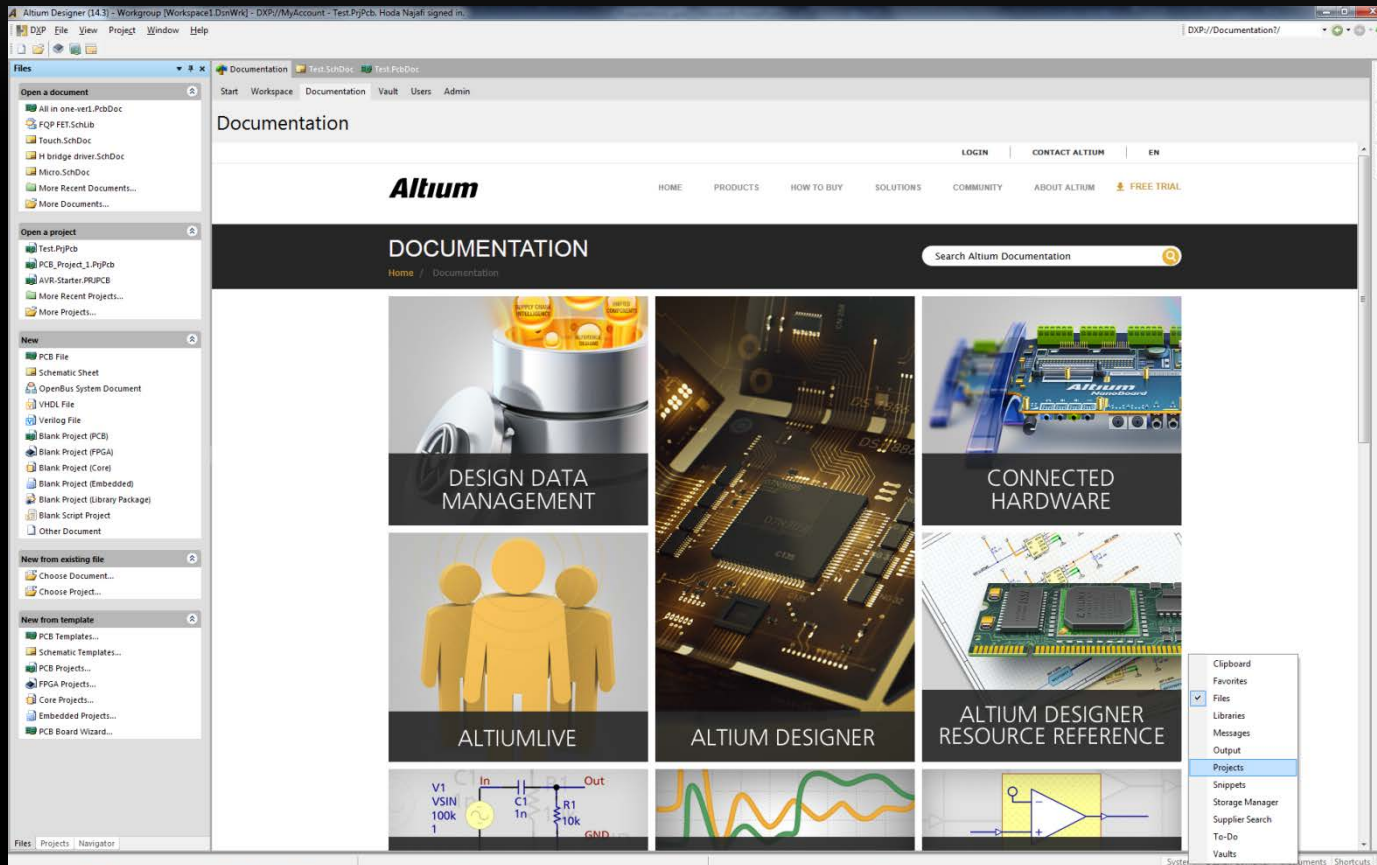

Figure 2
- b. View > Workspace Panels > System > ProjectsAlternatively you may...(Figure 2)